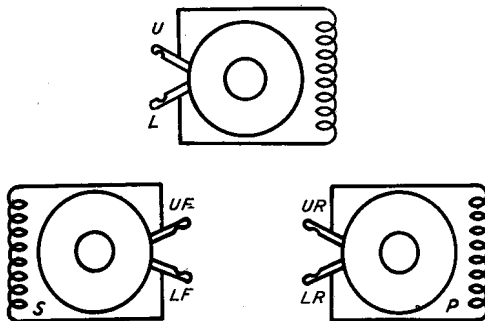

FIG. 26 - WINDING TERMINAL ARRANGEMENT AS VIEWED FROM THE REAR - 225 TYPE AND A.E. CO. PIVOT TYPE RELAYS
2.21 The winding terminals are indicated by U (upper) and L (lower) facing the rear of the relay with the spring combination uppermost as shown in Fig. 26.